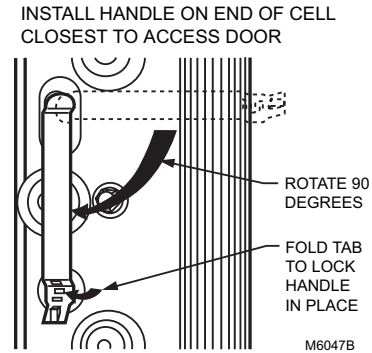

Fig. 14. Attach cell handle to end of cell.
1. Hold the handle sideways and insert the solid tab on the back of the handle into the rectangular slot in the cell. Turn the handle 90 degrees clockwise to align the divided tab with the square hole. See Fig. 14.